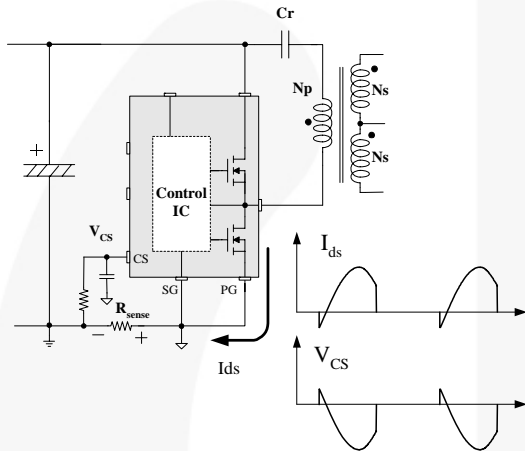
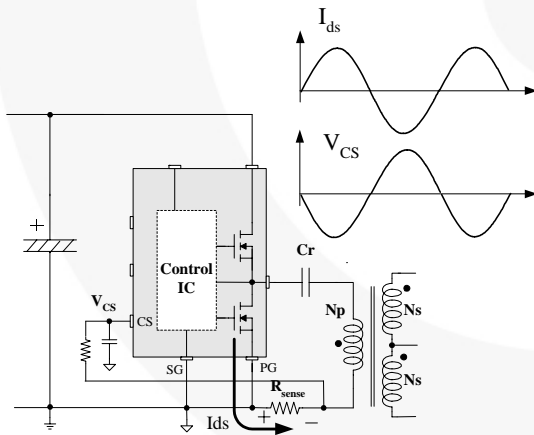

Figure 23. Half-Wave Sensing
Figure 24. Full-Wave Sensing
6. Current Sensing Using Resistor: FSFR-US series senses drain current as a negative voltage, as shown in Figure 23 and Figure 24. Half-wave sensing allows low power dissipation in the sensing resistor, while full-wave sensing has less switching noise in the sensing signal.